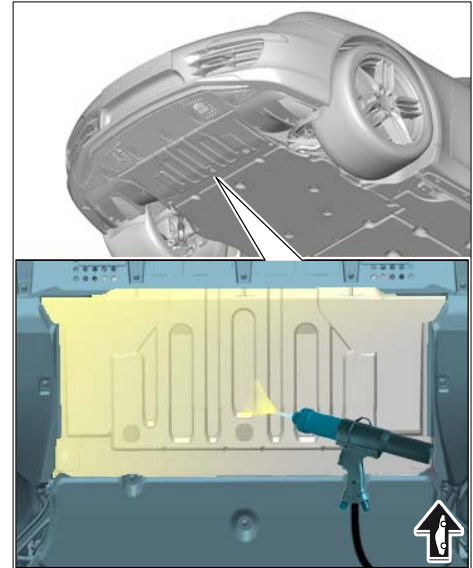

Figure 4
- 5 Using the **Multi-press telescopic spray gun**, apply body sealant as a **sprayable seam sealant** (the same sealant as used in #3, above) with a layer thickness of 1 mm to 1.3 mm to the complete luggage compartment floor ⇒ *Figure 4* **and leave it to dry.**